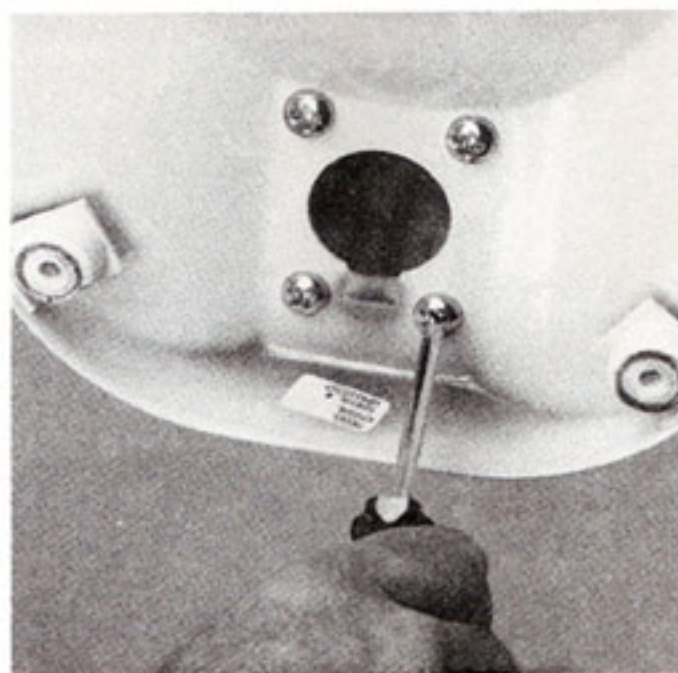

Fig. 88
D. With the bowl lift assembly on the bench, lay it on its back and remove the four  $\frac{5}{16}$ "-18 x  $\frac{3}{4}$ " round head screws (Fig. 88) and lift the column off the base.